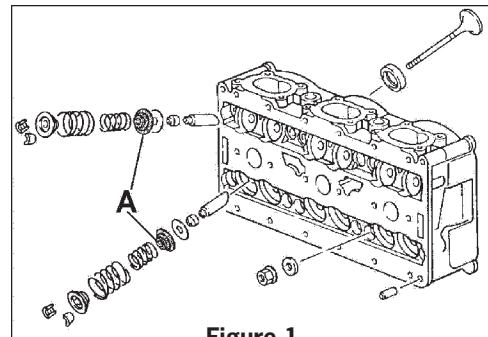

Figure 1
6. Replace all lower valve spring caps (Figure 1, Item A).
8. Install 911 GT3 (996) cylinder head as described in the Technical Manual, Group 1, Chapter 15 70 23.